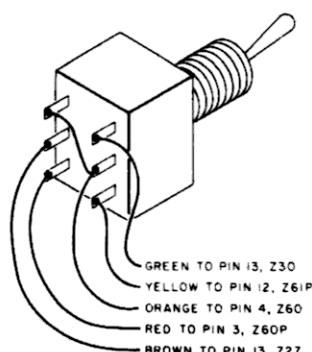

Fig. 2. Pre-wire the switch as shown here. Don't forget to add the jumper.
five 6 inch lengths of hookup wire (see Fig. 2)
18. The last conversion step is to connect the toggle switch. Use the 6 inch lengths of hook-up wire to prepare the switch as shown in Fig. 2. Connect the switch as directed in Table 2. Don't forget to include the jumper on the switch, as shown in Fig. 2. Place the switch in the conversion position (with the handle toward the green wire end).